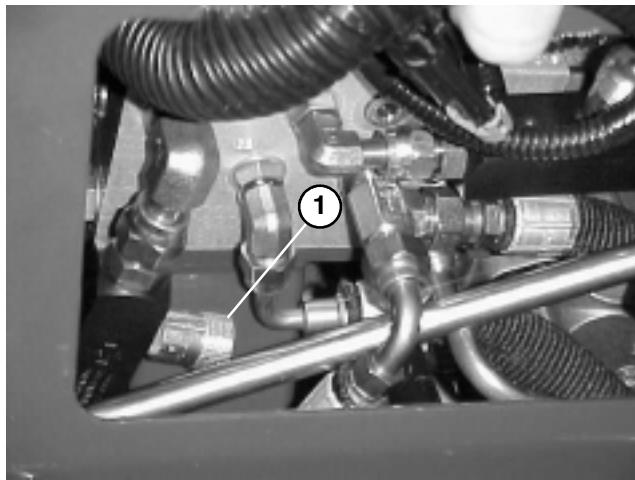

Figure 60
1. Locate valve on right side of lift block (Fig. 60).